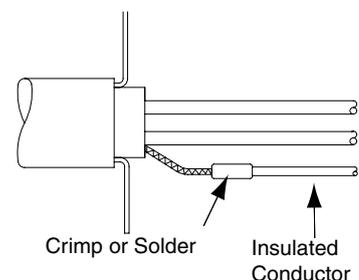

Fig. 3
- 2.5. Crimp an insulated conductor to the pigtail with a suitable insulated butt ferrule (*or soldered connection*), leaving enough length of the insulated conductor to enable the remote end to be connected to the earth terminal in the equipment. (*See Fig. 3*).